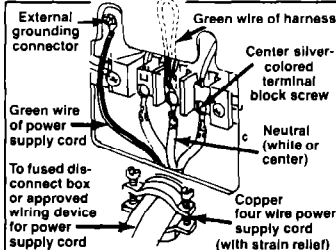

Figure 10
5. Connect the neutral wire (white) of the power supply cord to the center silver-colored terminal of the terminal block and connect the other wires to the outer terminals. See Figure 10. For connecting plain-end field wire, see Figure 6.